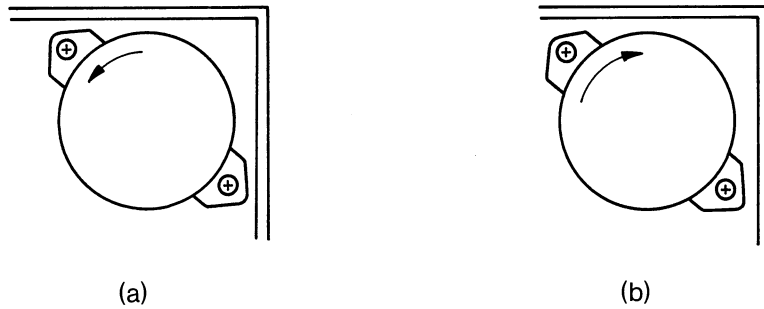

Figure 4-13. Step Motor Adjusting Waveform
- (7) Seek toward track 79, then return to track 40.
- (8) OK if step 6 is satisfied.
- (9) Waveform E is increased when rotation is counterclockwise ((a) in Figure 4-13).
Waveform F is increased when rotation is clockwise ((b) in Figure 4-13).